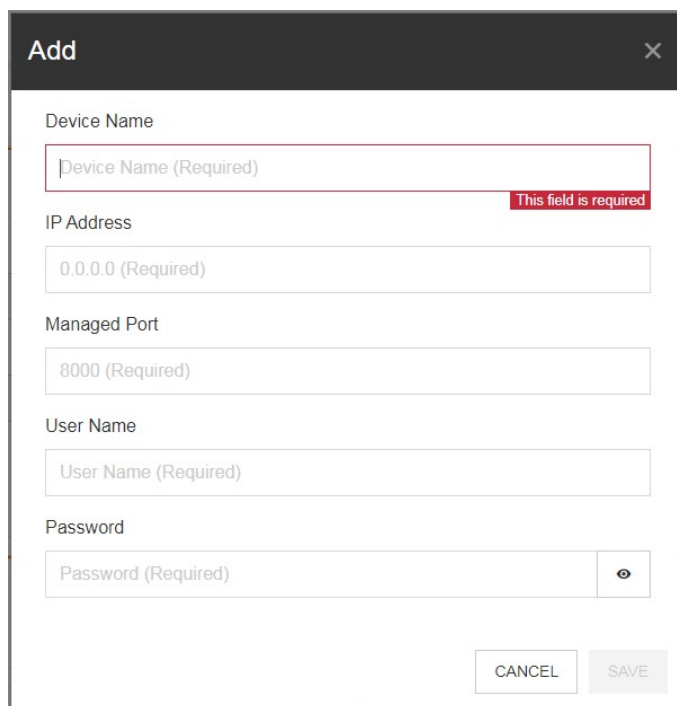

Figure 14-11 Adding an IPC device
1. Choose **Video > Device Management**. The **Device Management** page is displayed. Click  on the right side of the device data row and select **Edit** from the pop-up drop-down menu. On the edit page, click  on the channel list in the lower part of the page. The **Add** page is displayed, as shown in Figure 14-11.